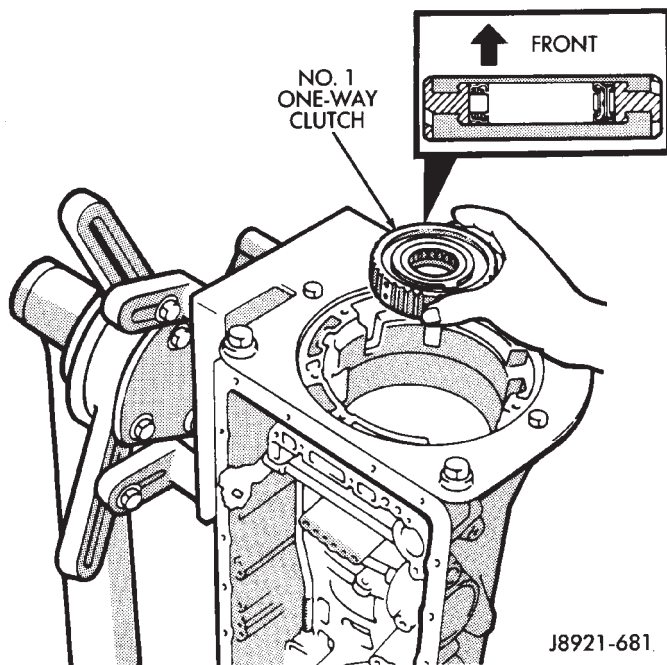

Fig. 14 Installing No. 1 One-Way Clutch
(17) Install No. 1 one-way clutch (Fig. 14). Short flanged side of clutch faces up and toward case front.